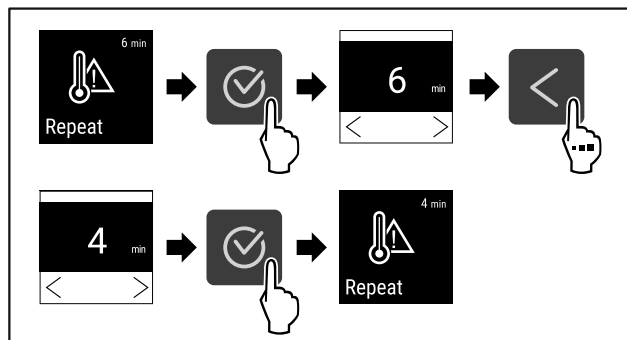

Fig. 100
- Complete steps (see Fig. 100).